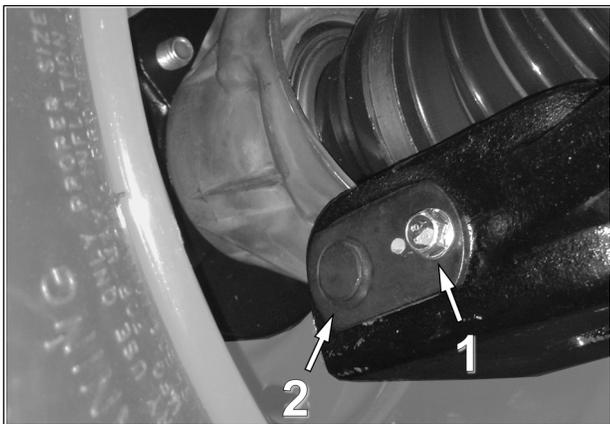

Fig. 6
5. Loosen and remove flange bolt (1) to remove knuckle pin (2) and decouple lower suspension arm from wheel hub. See Fig. 6